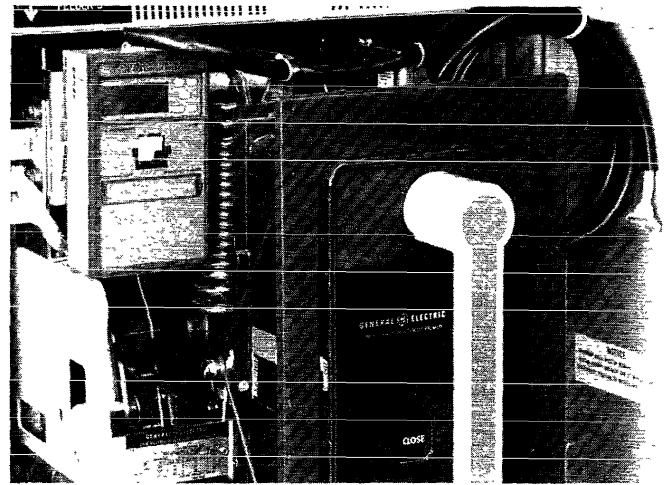

Figure 4. Routing the Remote Display Harness
7. Route the Remote Display Harness across the top front of the breaker frame, using the cable ties provided to secure the Harness to the breaker. Avoid placing the harness near any of the charging springs or mechanism parts. Route the Harness so that any extra cable is near the hinge on the door. A suggested cable route is shown in Figure 4.